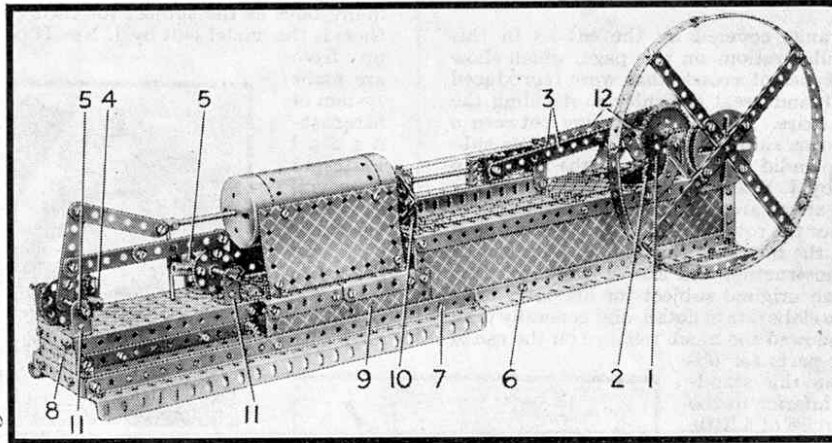

Fig. 1. A neat working model of a Pumping Engine, operated by an Electric Motor and built with Outfit G.
**P**UMPING ENGINE models have often been described and illustrated in the "M.M.," but the engine shown in Fig. 1 justifies the appearance of yet another model of this kind. Although this is a simple one, built with Outfit G, it is one of the neatest that have ever been designed.
In building the model, construction should be commenced with the base as shown in Fig. 1. The cylinder, which is represented by a Boiler, is next secured in position. This is done by bolting a  $4\frac{1}{2} \times 2\frac{1}{2}$ " Flexible Plate on opposite sides of the Boiler, and joining these to the two  $3\frac{1}{2} \times 2\frac{1}{2}$ " Flanged Plates which are fastened to the Flexible Plates 9, by means of Angle Brackets. A washer should be placed on the shank of each bolt, between the  $4\frac{1}{2} \times 2\frac{1}{2}$ " Flexible Plates and the Boiler, in order to leave sufficient room to enable the Boiler Ends to be pushed into position.